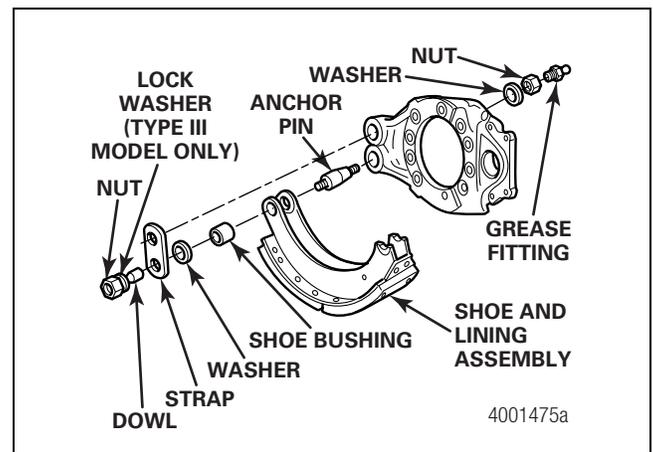

Figure 5.26
- A. For a tapered anchor pin, place the anchor pin through the shoes and into the shoe side of the spider. The tapered side of the pin must be toward the spider. Figure 5.26.